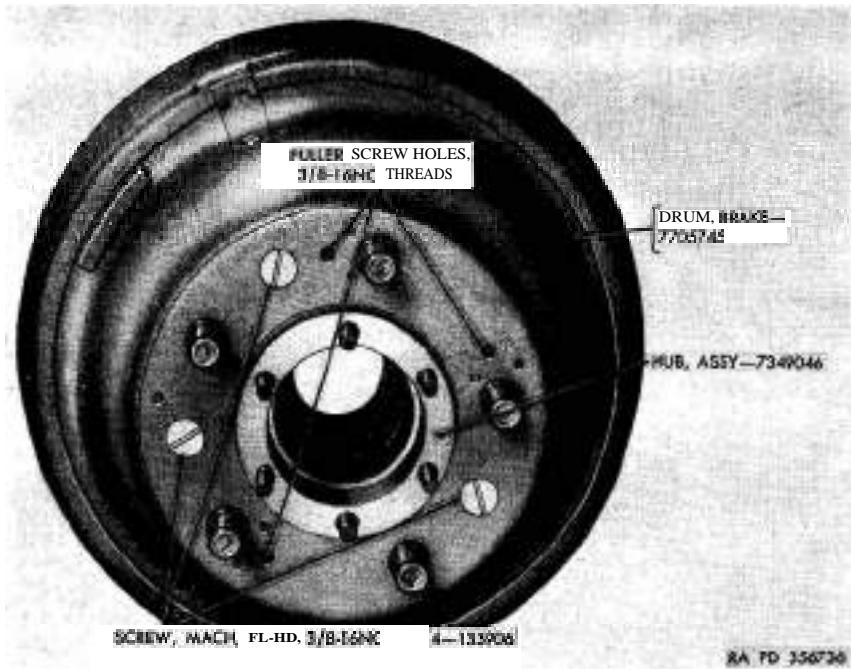

Figure 52. Brake drum with hub.
- (1) Insert a blunt chisel in each of the three machine screw slots (fig. 52) and strike the chisel a few sharp blows with a medium size hammer to loosen screws. Remove screws.
- (2) Install three $\frac{1}{4}$ -16NC x $1\frac{1}{2}$ cap screws in the three puller screw holes (fig. 52) of each brake drum. Pull brake drums from hubs by tightening screws. If the brake drums are rusted to the hub flanges, shock the puller screws with a hammer as they are tightened.
d. Install Brake Drums. Coat flange of hub assemblies with water pump grease to prevent corrosion. Position the brake drums on hubs so that the attaching screw holes are in alignment. Install and tighten $\frac{3}{8}$ -16NC x 1 1/4 flat-head machine screws (fig. 52).